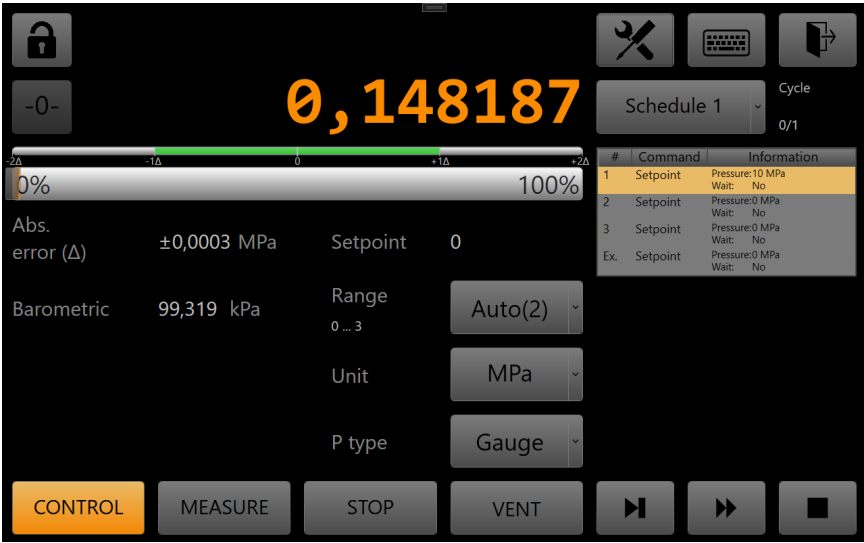

Fig. 9 Pressure setting according to a program
7.5.3.1 When selecting the **Πporpamma** item for the input type, the screen takes the following form (Fig. 9).